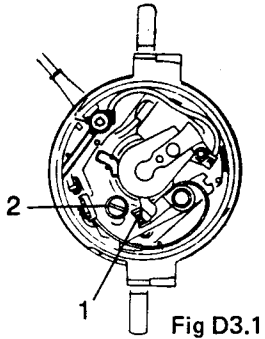

Fig D3.1
- (1) Refer to Fig D3.1. Lever the two clips away from the distributor head and lift off the head.
- (2) Turn the crankshaft until the contact gap (1) is fully open.
- (3) Check the gap with feelers. To be 0,35 to 0,40 mm.
- (4) If the gap is more or less than that specified, loosen the screw (2), set the gap to the correct value and tighten the screw.
- (5) Recheck the gap and reset if necessary.